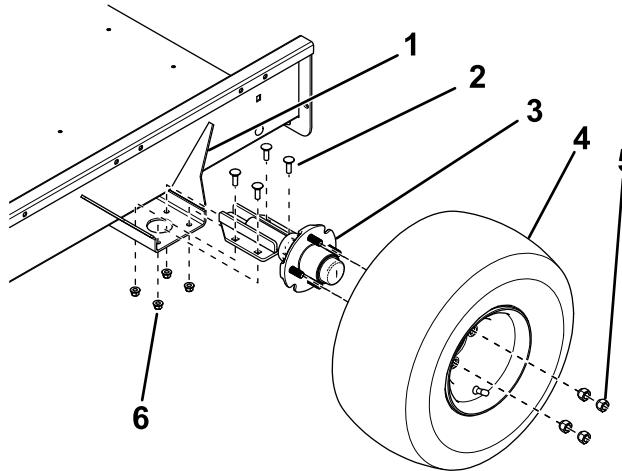

Figure 1
1. Using the 4 carriage bolts and 4 locknuts, mount an axle to the top side of the mounting brackets on each side of the trailer bed as shown in Figure 1.
2. Mount a wheel assembly to each axle hub with 4 lug nuts (Figure 1) and tighten the nuts to 80 ft-lb (108.5 N·m).
3. Adjust the position of the axle mounting brackets so that the front center-to-center distance is about 3 mm (1/8 inch) less than the rear center-to-center distance (Figure 1).